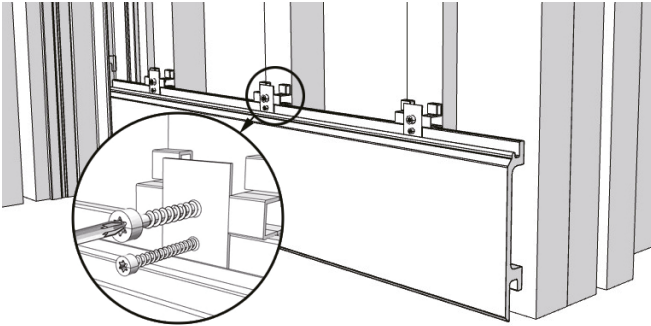

Fig6-3
2. Install the wall cladding connection fittings and fix the locking plate nails in the fittings in the middle of the wall plate length. As shown in Figure 6-3: